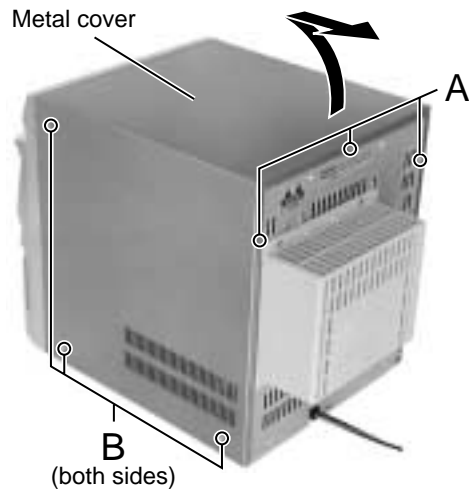

Fig.1
■ Removing the metal cover (See Fig.1)